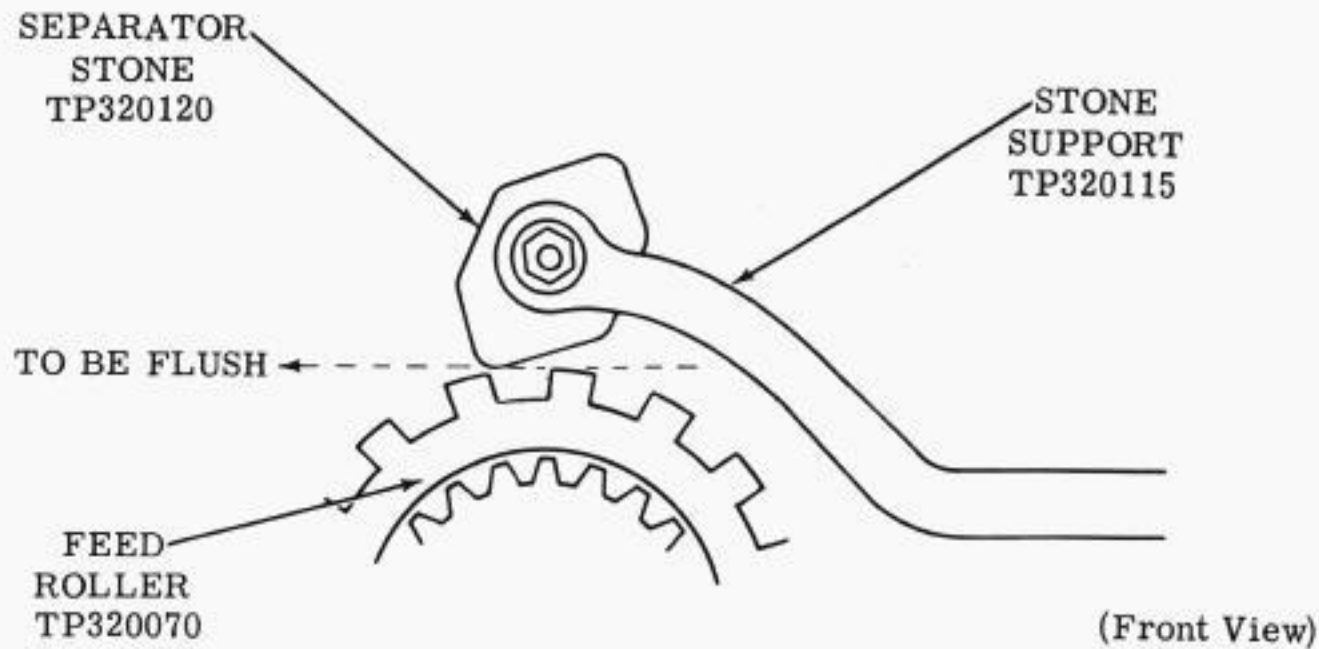

Figure 12 - Feeder Separator Stones
- (a) By rotating the knurled wheel TP320125, adjust the separator stones TP320115 so that the bottoms of the separator stones are flush with the top of the feed roller TP320070 (Figure 12).